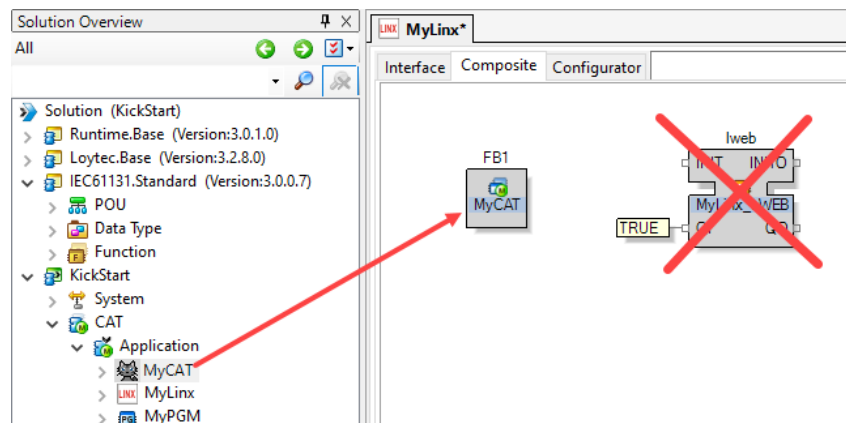

Figure 60: Create a CAT instance within the device CAT.
18. Open the device 'MyLinX' and go to the **Composite** tab. Drag the 'MyCAT' from the solution tree onto the composite tab to create a CAT instance (see Figure 60). You may also delete the 'lweb' block as it is not needed.